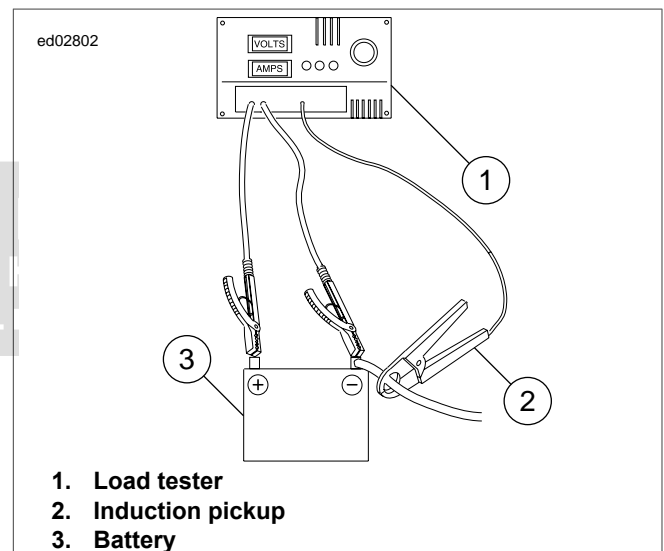

Figure 3-12. Check Current Draw (Ignition On)
- See Figure 3-12. Connect load tester.